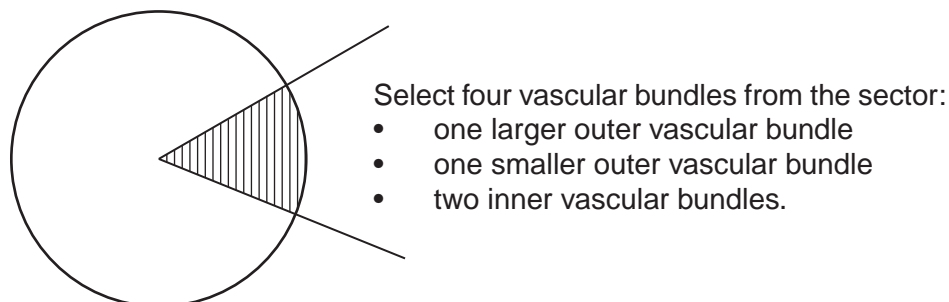

Fig. 2.1
- (a) (i)** Draw a large plan diagram of the part of the specimen on **J1** indicated by the shaded sector in Fig. 2.1. Your plan diagram should include: